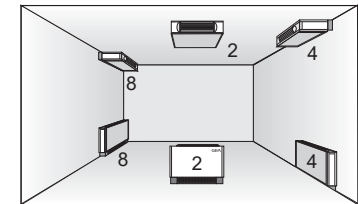
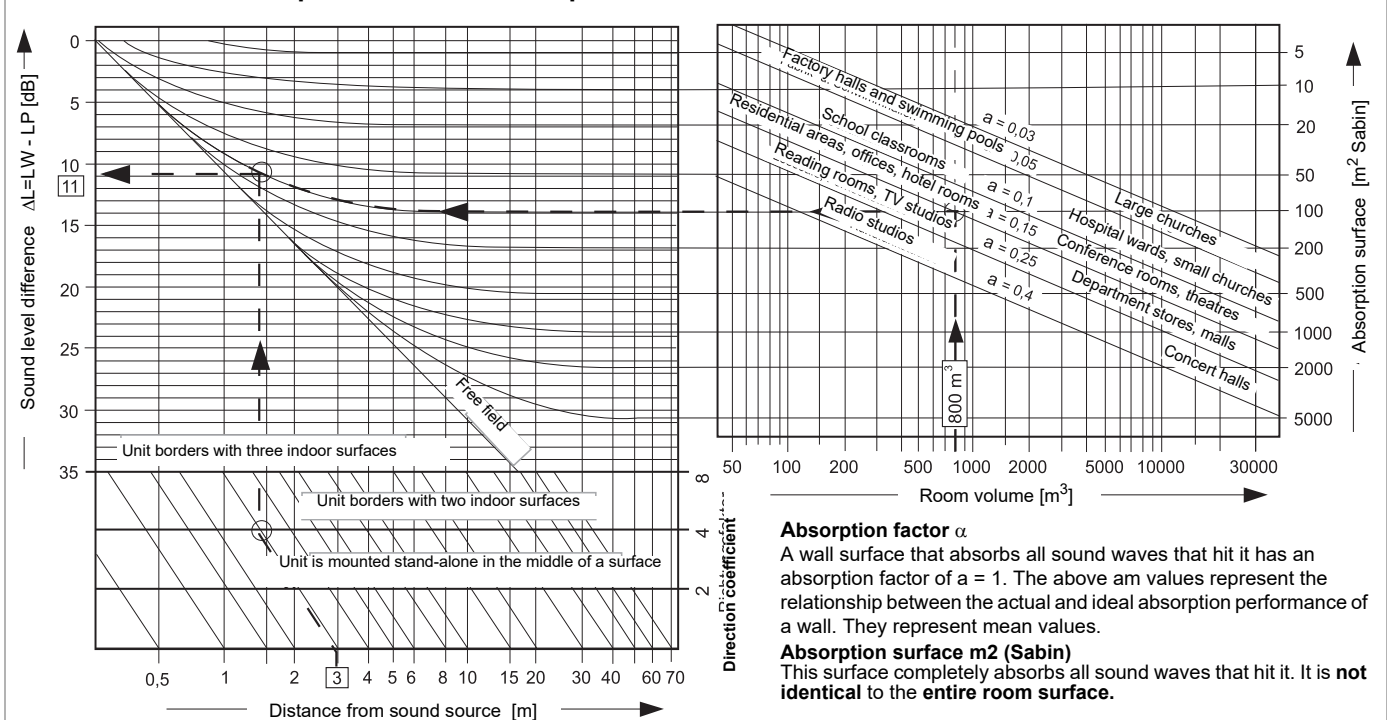

Fig. 23
Fig. 24
To determine the expected sound pressure level at the installation location, refer to the A-rated sound power level in conjunction with the conversion diagram in Fig. 24.
1. Based on the room volume (800 m³), an absorption surface of approx. 100 m² Sabin is estimated in accordance with the diagram Fig. 24 "Homes, offices, hotel rooms, conference rooms".
2. The mean distance to the fan coils is assumed to be approx. 3 m and the direction coefficient to be "4", Fig. 23. The intersection of the dotted sample lines in the diagram Fig. 24 makes up the sound level difference: $\Delta L \sim 11$ dB.